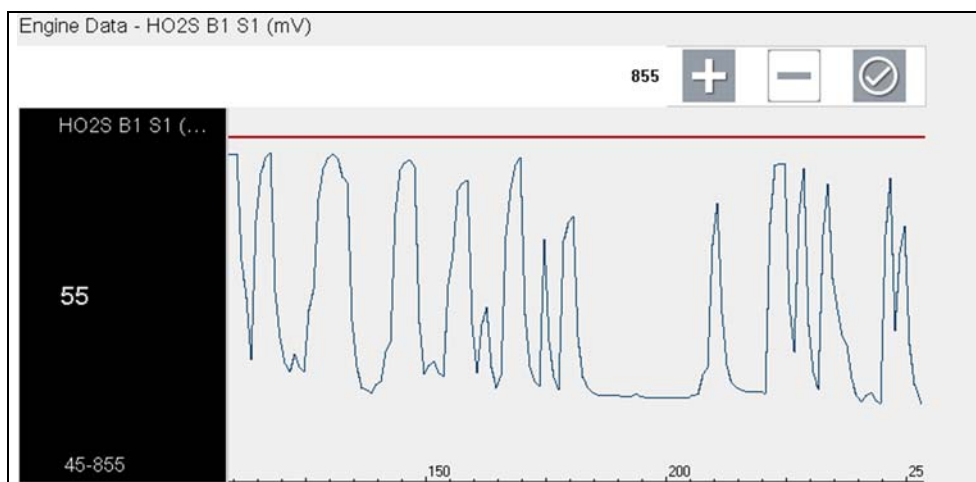

Figure 6-40 Trigger setup - upper limit
A graph of the highlighted PID and setup icons display (*Figure 6-40*).
The upper trigger point must be set first. A red horizontal line is displayed across the data graph (*Figure 6-40*) representing the upper trigger point.
4. Use the plus (+) and minus (–) icons (*Figure 6-40*), or the up ▲ and down ▼ arrow buttons to change the position of the upper trigger point.